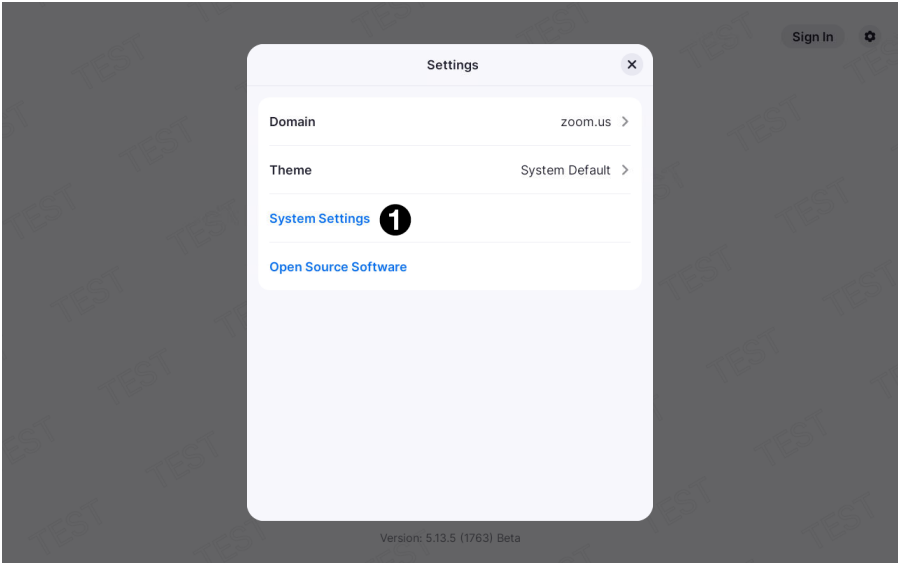

Figure 7. Settings Menu
3. Click **System Settings** (see figure 7, ❶).